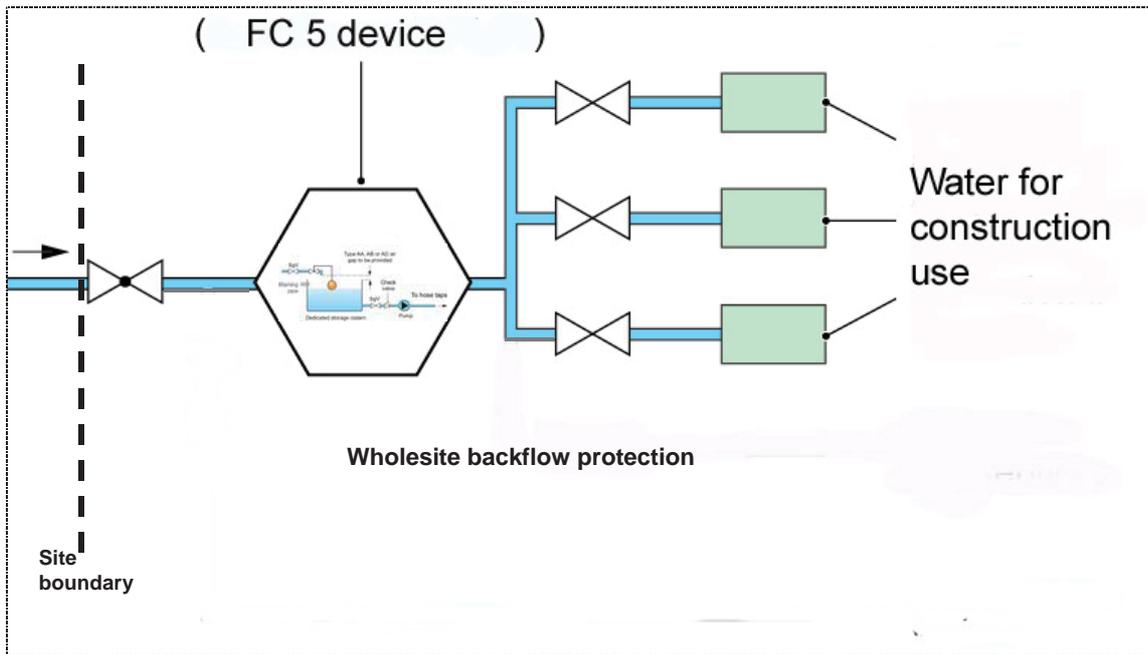

Figure 1: Illustrating the principle of whole site backflow protection
- (a) by 'whole-site backflow protection' (see Figure 1) using a backflow device rated at fluid category five (FC5) installed on the supply pipe or private water main close to where it enters the site – e.g. a break tank arrangement with an air gap of the type AA, AB or AD (see Appendix). In such circumstances, individual outlets or processes on the site do not have to have point-of-use backflow protection.